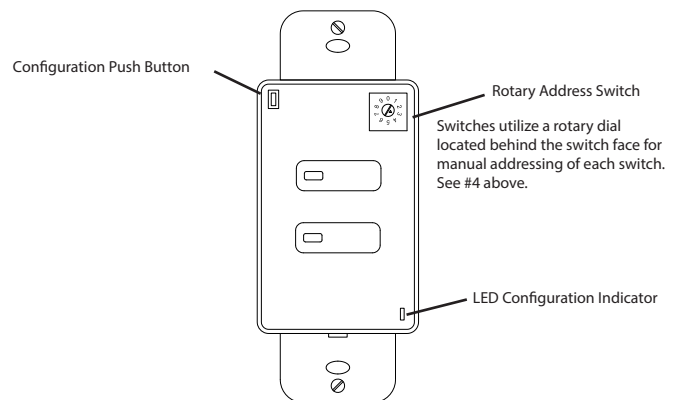

Figure 2: View Behind Switch Face
4. Set the switch address to number 1 on the rotary address switch. Additional switches to be daisy chained on the same SmartPORT must be set to unique addresses i.e. 2, 3, 4, etc. A maximum of 8 switches can be connected to one SmartPORT (See Figure 2). Alternately, the switch may be connected directly to a Hubbell NX enabled luminaire equipped with a dual RJ45 port adapter.